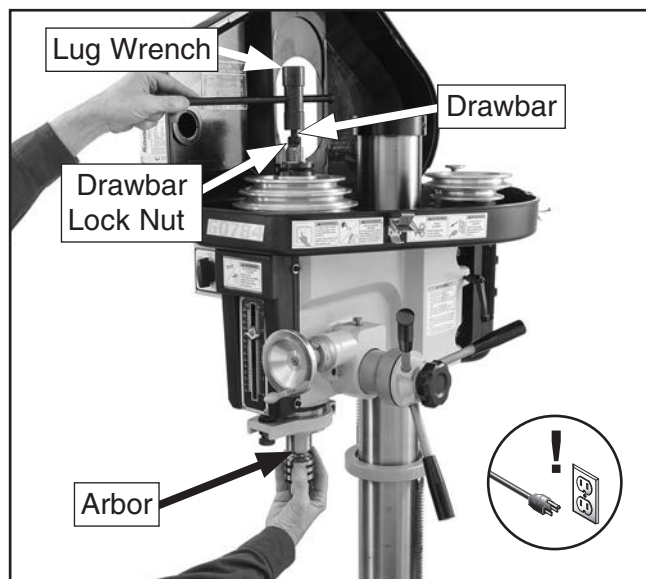

Figure 17. Threading drawbar into collet/arbor to install tooling.
5. Using lug wrench included with machine, rotate top of drawbar clockwise (see **Figure 17**) until drawbar threads mesh with female threads arbor/collet.
—If drawbar bottoms out in tooling and will not tighten further before tooling is tight in spindle, tighten drawbar lock nut (see **Figure 17**) to secure tooling in spindle.